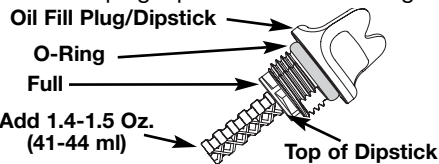

Fig. 21
5. Remove the oil fill plug/dipstick and check the oil level. Oil should be up to the top of the dipstick (Fig. 21).